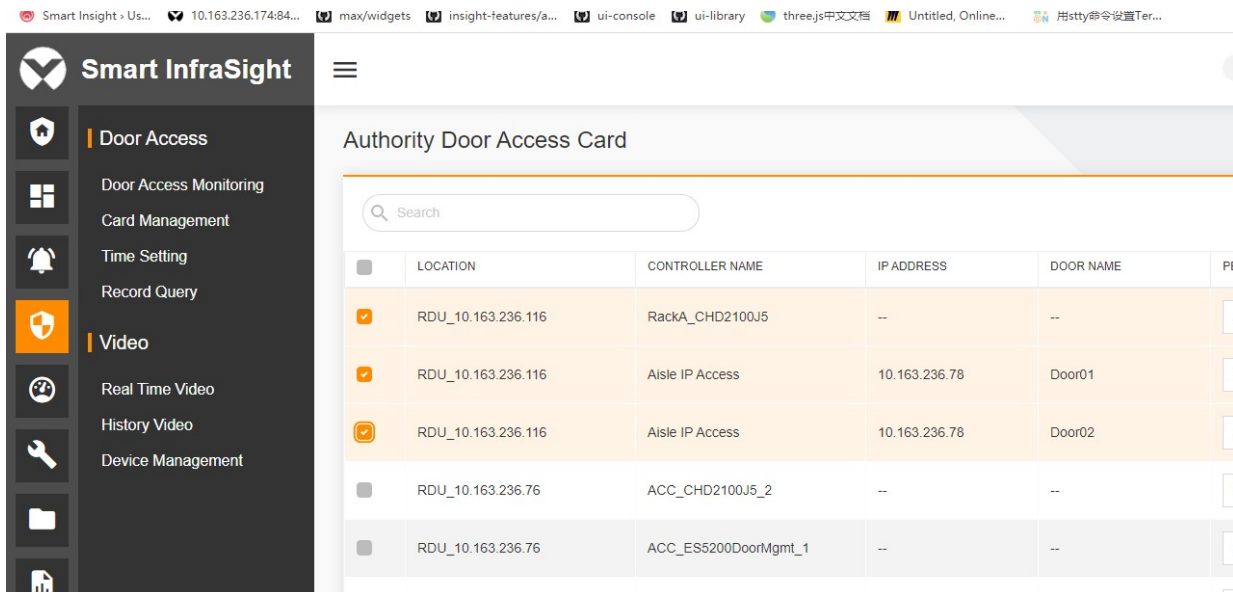

Figure 13-40 Door authorization - batch modification
4. If you click the check box in the first column of the table header, all data is selected. If you select two or more items, the **BATCH AUTHORIZE** button appears in the lower right part of the page. After you select the permission group, click **BATCH AUTHORIZE**. The system modifies the permissions of selected door devices in batches. The last column displays the authorization result. When the authorization is successful, a green icon  is displayed. When the authorization fails, a red icon  is displayed. In addition, the **PERMISSION GROUP** option restores to the previous setting before it is changed. Select door 01 and door 02 under access controller 01. Select **Group 2** and click **BATCH AUTHORIZE**. When the batch authorization is successful, the page as shown in Figure 13-40 is displayed.